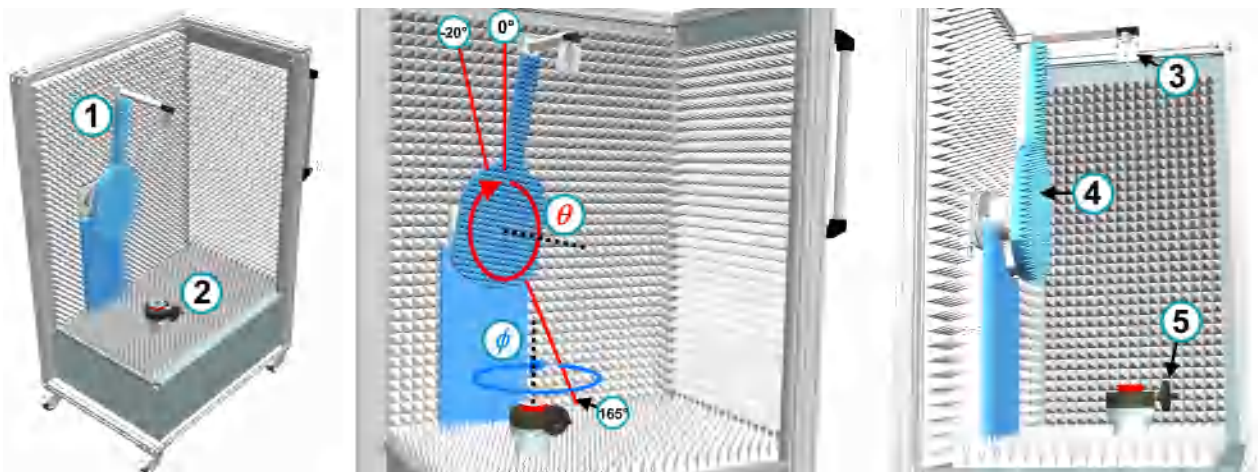

Figure 4-10: Interior view of the chamber (door, right wall and ceiling not shown)
The 3D positioner in the chamber consists of an antenna elevation arm (labeled 1 in Figure 4-10) and a turntable (2). These two axes define 2 degrees of freedom of the 3D tilt-tilt positioner. The 3rd degree of freedom is the altitude at which you mount your DUT on a DUT holder on the manually height-adjustable turntable.